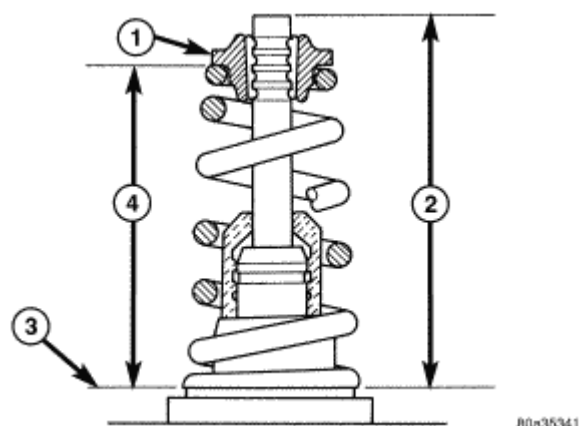

Fig. 92: Identifying Spring Seat
5. After grinding the valve seats or faces, install the valve in cylinder head and check valve installed height by measuring from valve tip to spring seat. See **Fig. 92**. Remove valve from cylinder head and grind valve tip until within specifications. Check valve tip for scoring. The tip chamfer should be reground (if necessary) to prevent seal damage when the valve is installed.
6. Check the valve spring installed height after refacing the valve and seat. See **Fig. 92**.
If valves and/or seats are reground, measure the installed height of springs, make sure measurements are taken from top of spring seat to the bottom surface of spring retainer. If height is greater than specifications, install a 0.794 mm (0.0312 in.) spacer in head counterbore to bring spring height back within specifications. See Fig. 92.